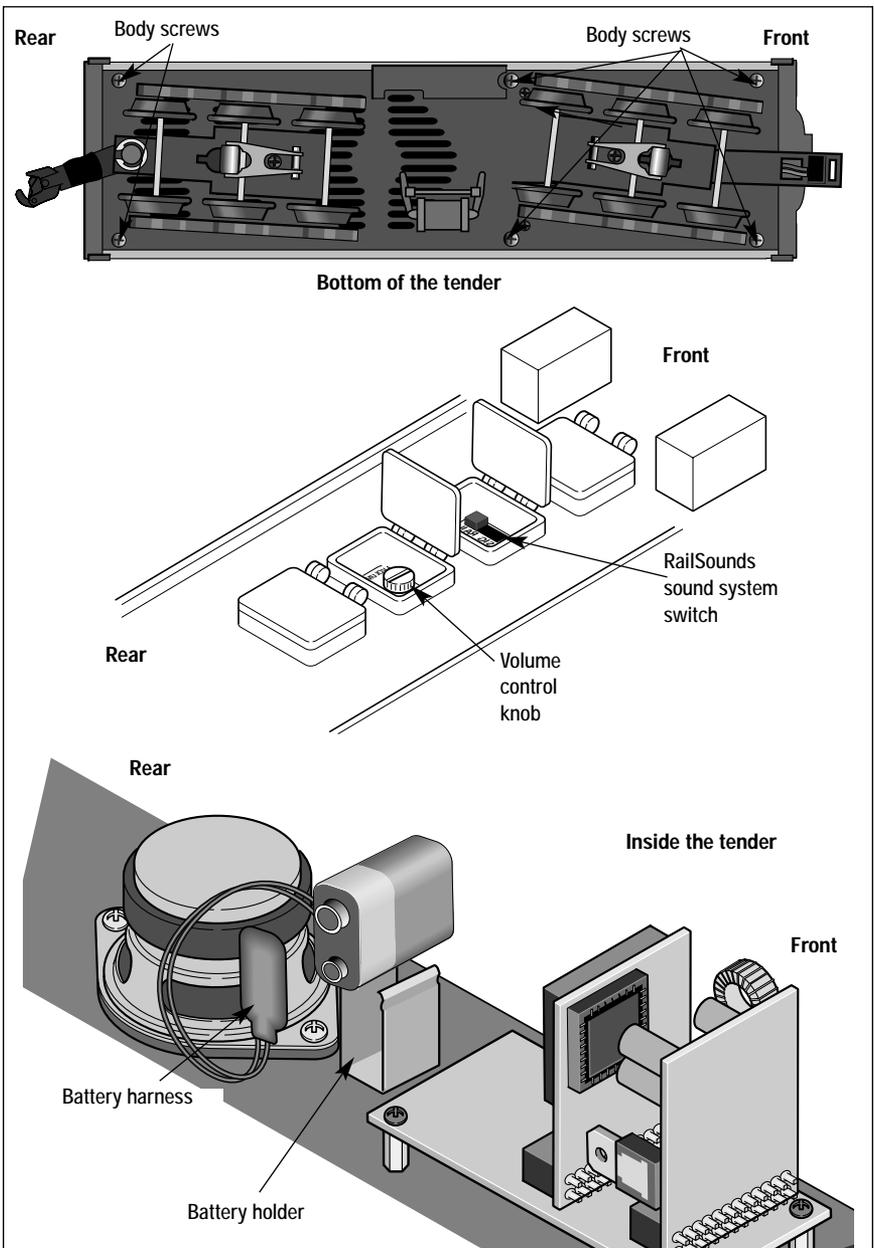

Figure 4. RailSounds sound system controls and battery installation
While the RailSounds 5.0 sound system is powered through the track, we recommend that you install a nine-volt alkaline battery in the tender to prevent the sound system from shutting down during track power interruptions (for example, at a switch or a dirty section of track). Follow these steps and refer to Figure 4 as you install the battery.
1. Remove the body screws from the underside of the tender. Refer to Figure 4 for the location of the screws.